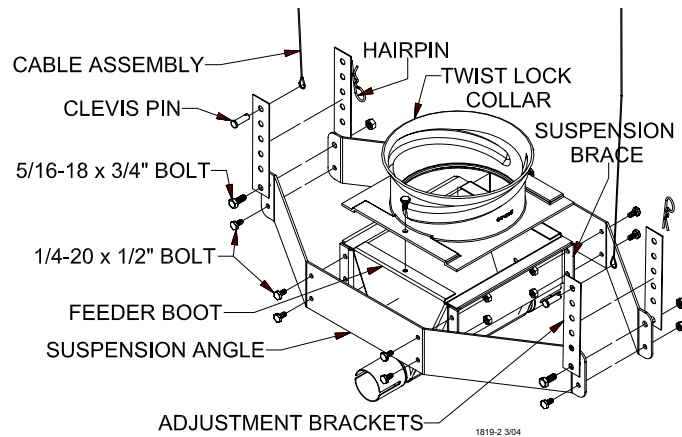

Figure 2.
4. Assemble suspension angles and suspension braces around feeder line boot (single or twin), using 1/4-20 x 1/2" Hex bolts and nuts (supplied in hardware package). See **Figure 2**.
5. Assemble the twist lock collar to the top of the feeder line boot (single or twin) using 1/4-20 x 1/2" bolts and lock nuts (supplied in hardware package). See **Figure 2**.
7. Two cable assemblies (cable with a sleeve clamp and a 5/32 thimble) are supplied with the suspension kit to support the hopper. Attach the cable assemblies to the adjustment brackets using the top holes of the adjustment brackets. See **Figure 2**.